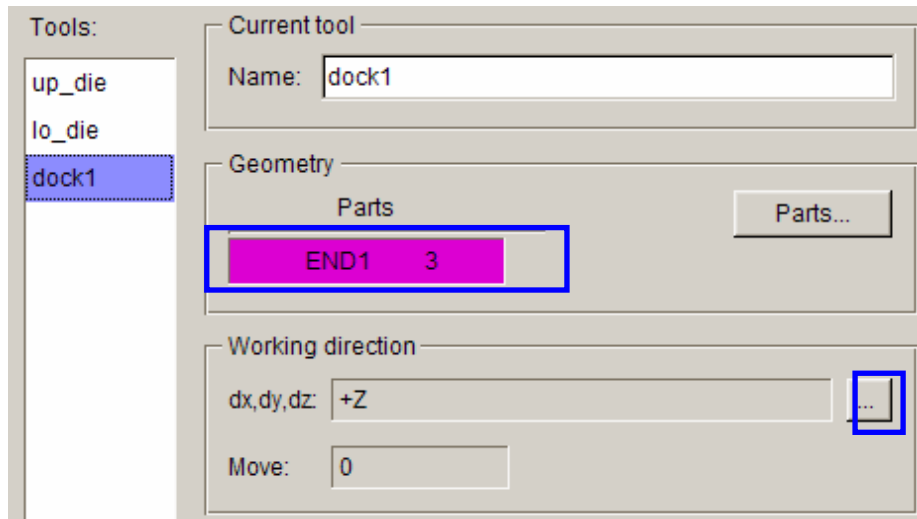

Figure 3.24 Define dock1
21. Click **Exit** button to return to tool definition interface. Now, you can observe the font color of **dock1** is changed to BLACK. See Figure 3.24.